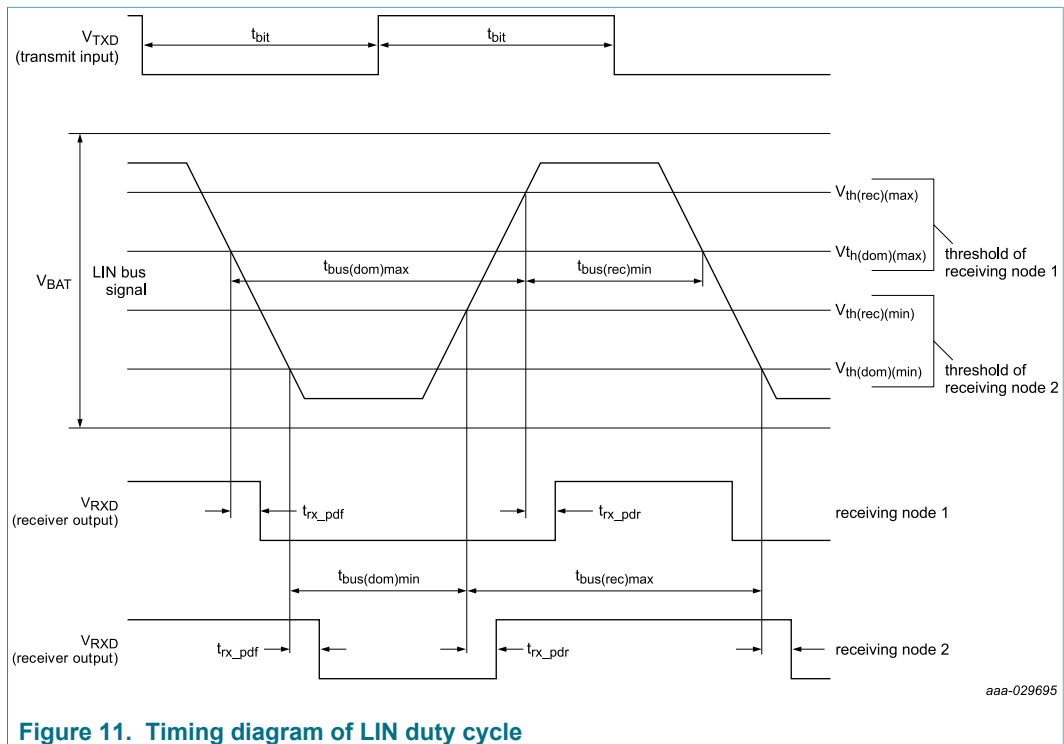

Figure 11. Timing diagram of LIN duty cycle
- [3] See timing diagram in Figure 11
| Fig. 4. | Serial data format in PORT mode .....                           | 7  | Fig. 11. | Timing diagram of LIN duty cycle .....   | 32 |